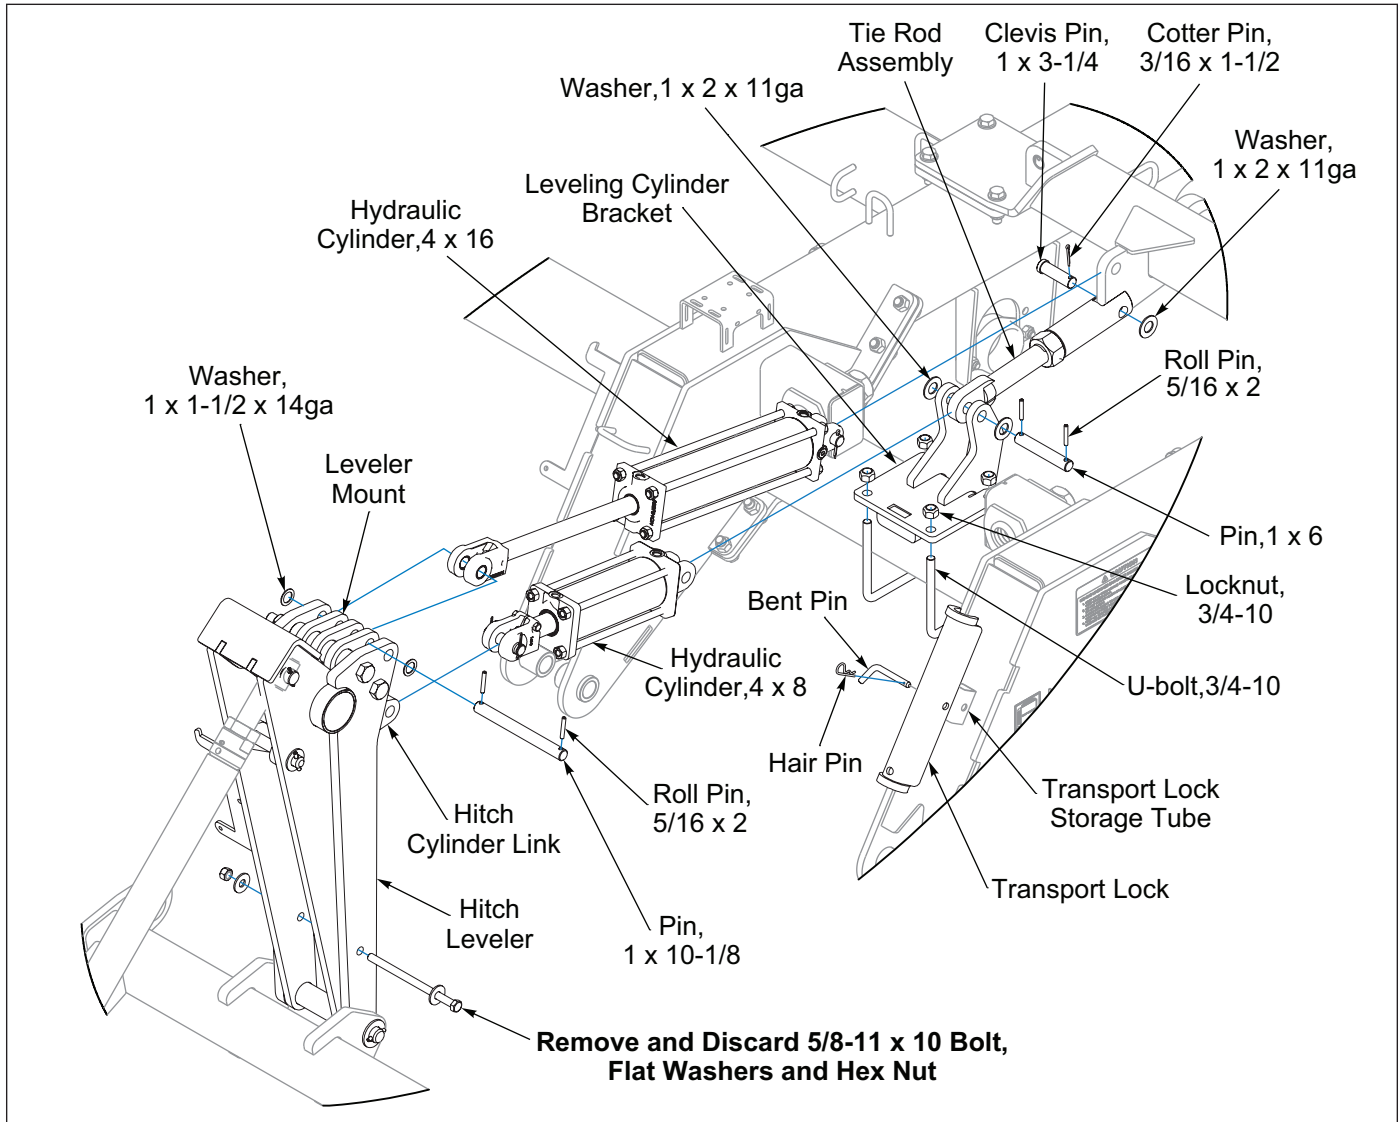

Figure 2-12: Drawbar Leveler
1. Assemble the Leveling Cylinder Bracket to the center of the Front Roller Frame Tube with 3/4-10 U-Bolts and Locknuts. **Do Not** Tighten at this time. See **Figure 2-12**.